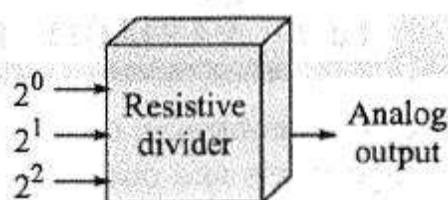

Figure 12.3: Resistive Divider DAC
- Assume we want to convert a three-bit digital input into an analog output (Fig 12.3).